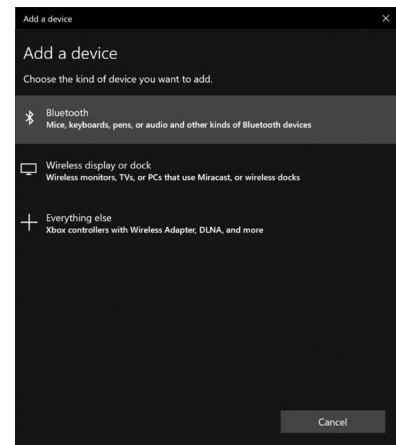

Figure 13. Choose Bluetooth Device Type
3. The **Add a device** window opens (see **Figure 13**). Select **Bluetooth**.